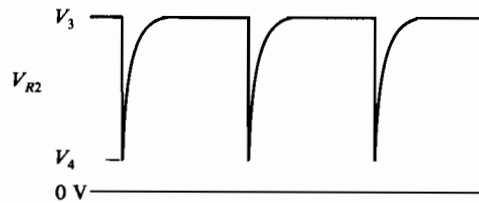

FIGURE 29-6 UJT base 2 voltage waveform.
15. Now connect the Channel 2 probe to $B2$ of the UJT. You should observe a negative-going waveform on Channel 2, which is the voltage across resistor R_2 . Using the waveform shown in Figure 29-6 as a guide, measure the maximum voltage (V_3) and the